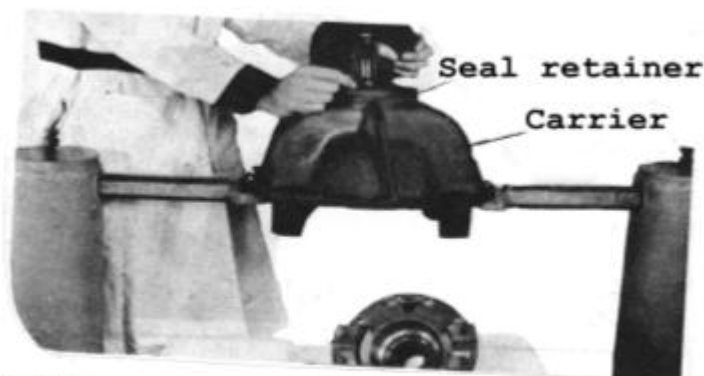

Fig 40
- * Remove the bolts securing the seal retainer to the carrier and remove the retainer (Fig. 40).